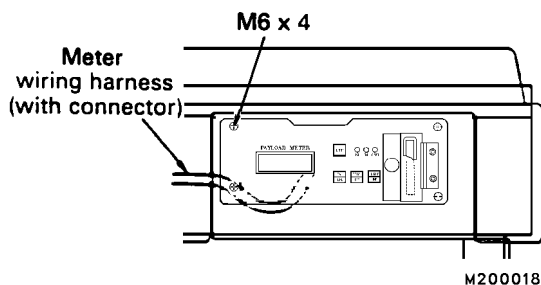

FIGURE 6-7. REMOVING PAYLOAD METER
3. Remove the four mounting screws holding the payload meter in position and then pull the payload meter out, away from the instrument panel (Figure 6-7).